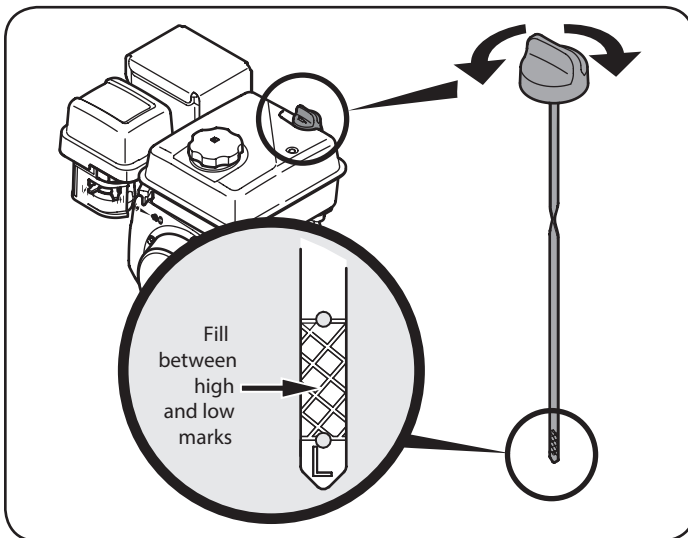

Figure 8
2. Remove the oil filler cap/dipstick and wipe the dipstick clean. See Figure 8.
4. Remove the oil filler cap/dipstick. If the level is low, slowly add oil until oil level registers between high (H) and low (L), Figure 8.